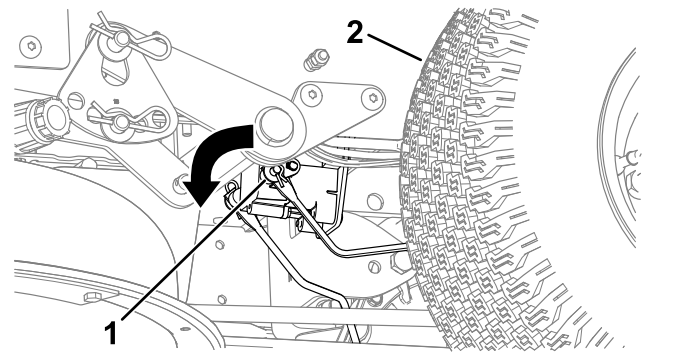

Figure 47
3. Locate the shaft on the electric brake where the brake link arms are connected (Figure 47).